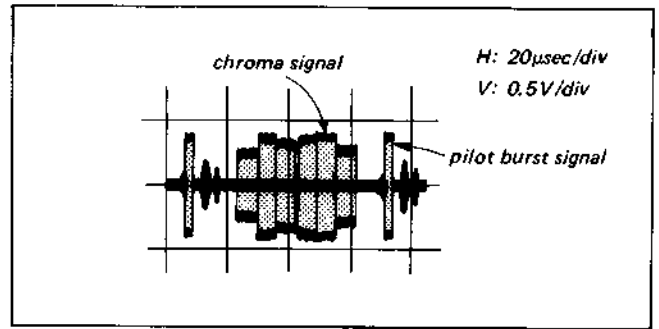

Fig. 4-4-16. Pilot burst adjustment
- (1) Supply the VTR with the colour bar signal and set up the E-E mode.
- (2) Connect the oscilloscope to TP26 (emitter of Q56).
- (3) Adjust RV18 so that the level of the chroma signal becomes equal to the one of the burst signal. (See Fig. 4-4-16.)